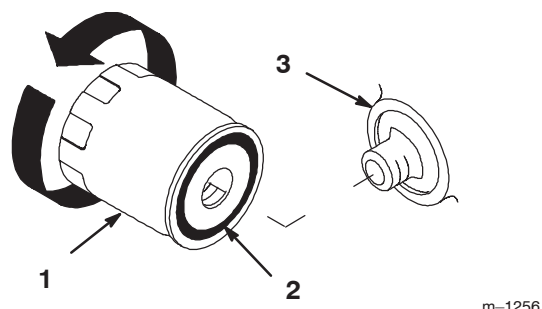

Figure 41
2. Remove the old filter and wipe the filter adapter (Fig. 41) gasket surface.
4. Apply a thin coat of new oil to the rubber gasket on the replacement filter (Fig. 41).
5. Install the replacement oil filter to the filter adapter. Turn the oil filter clockwise until the rubber gasket contacts the filter adapter, then tighten the filter an additional 1/2 turn (Fig. 41).